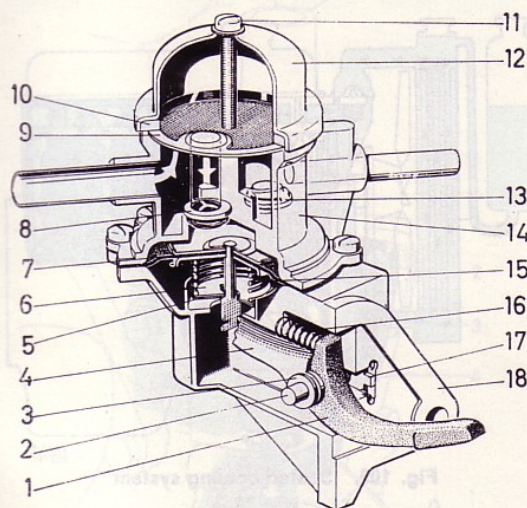

Fig. 104. Fuel pump, type III
4. Remove the spring (15, Fig. 104) by turning the washer (6) so that the hole in it coincides with the wide end of the diaphragm rod.
5. Remove the peening for the rocker arm pin rider (17) with, for example, a grinding rod, and remove the rocker arm (1) with pin (2) and lever (4).
1. Assemble the link arm, rocker arm with washers (3) and rocker arm pin.
2. Insert the linkage system with return spring (16) into the housing.
3. Fit and lock the riders in the housing by peening with a suitable punch, see Fig. 104.